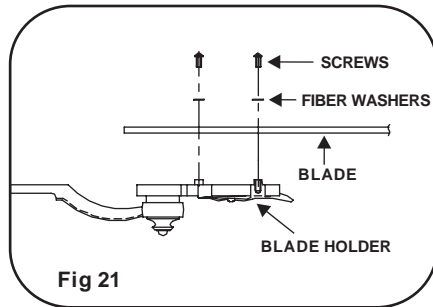

Fig 21
Step1. Attach the fan blade to the blade holder using the screws and fiber washers provided. Tighten screws securely. Repeat process for remaining blades.(Fig. 21)